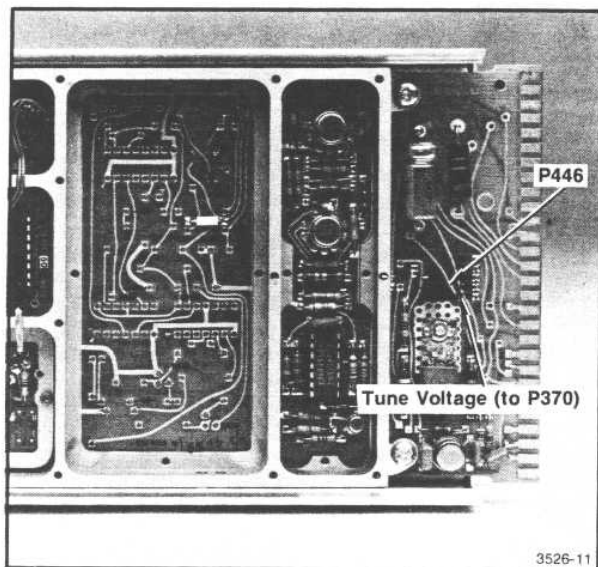

Fig. 5-9. Location of P446 on the mother board.
b. Remove the P446 link (Tune Voltage Line, Fig. 5-9). Reconnect P370 and P210 to the mother board and the Leveling Loop and Bias board. Connect the + terminal of the power supply to the rear Tune Voltage pin of P446. Connect the "minus" or "common" of the power supply to the TR 503 chassis.